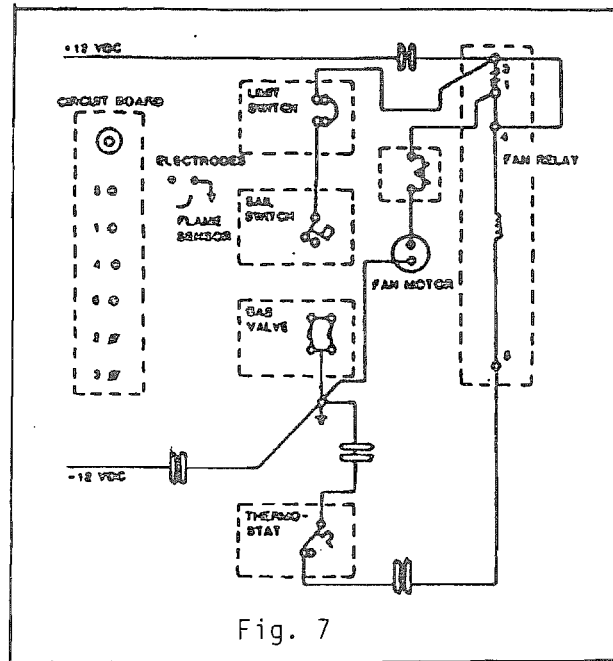

Fig. 7
- C. With the fan relay coil energized, the contacts of the fan relay will close and the +12 VDC will pass (1) through the contacts from #3 to #1, (2) through the red wire to the circuit breaker, (3) through the circuit breaker, (4) through the red wire to the motor, (5) through the motor, (6) through the black wire to the ground system. Thus, the fan motor runs. See Fig. 7